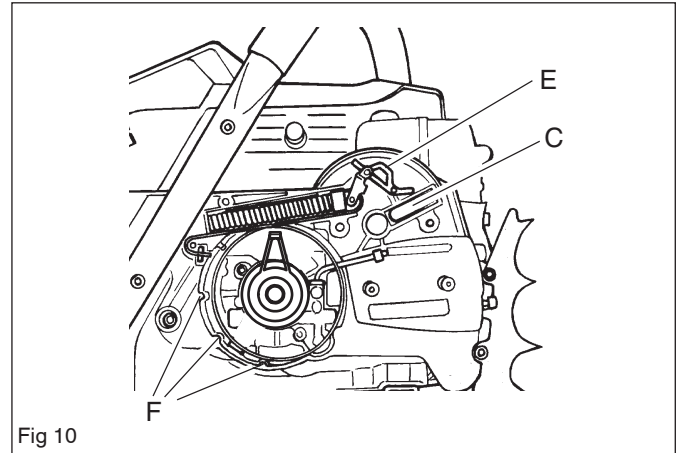

Fig 10
2. Grease the moving parts of the toggle joint (J) and fit the unit on the chain saw. See fig. 10.
9. Check that the brake strap is correctly positioned in the recess (K) in the crankcase. See fig. 10.